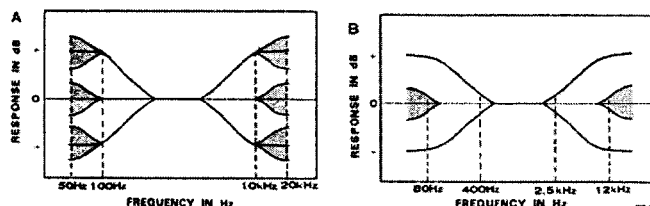

Fig. 6
Similarly, the larger TREBLE control knob adjusts treble response at 10kHz by ± 10 dB. The signal can be further adjusted at 20kHz by ± 5 dB. Fig.6 (A) shows the obtainable frequency response curves when both controls are used together. If the larger knobs are left at "0" and only the smaller knobs used, these function as tone controls with turnover frequencies at 80Hz and 12kHz, respectively. Conversely, if both small controls are left an "0" and only the large knobs used, these act as tone controls with turnover frequencies at 400Hz and 2.5kHz. Fig.6(B) illustrates these uses.